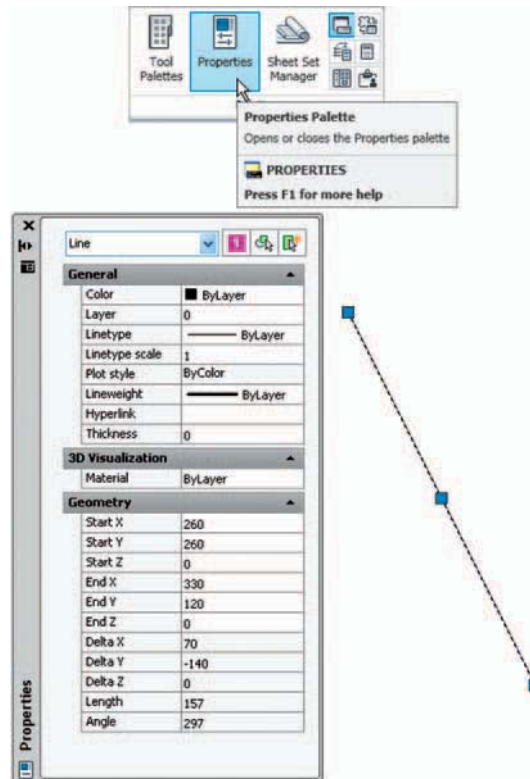

Fig. 1.12 The **Properties** palette
- **Properties palette:** Fig. 1.12 shows the **Properties** palette, called from the **View/Palettes** panel, in which the general and geometrical features of a selected line are shown. The line can be changed by the *entering* of new figures in parts of the palette.